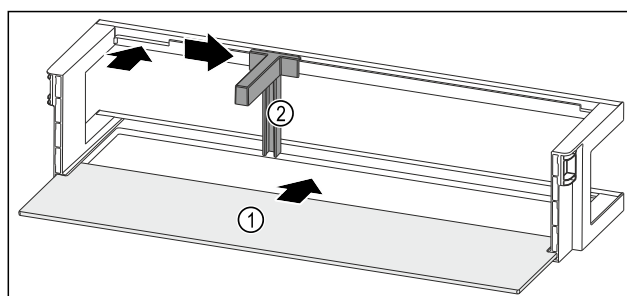

Fig. 145 Door rack with shelf
- Push the shelf Fig. 145 (1) into the side recesses.
- Insert the bottle holder Fig. 145 (2) in the recess.
- Push the bottle holder Fig. 145 (2) to the desired position to the side.